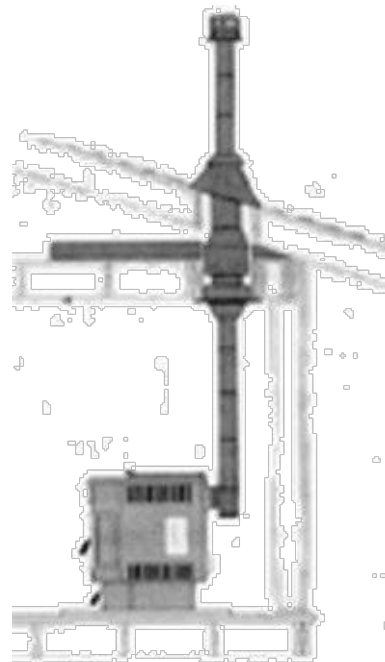

Fig. 4
- Vertical venting through the ceiling and roof (Fig. 4 and 5)